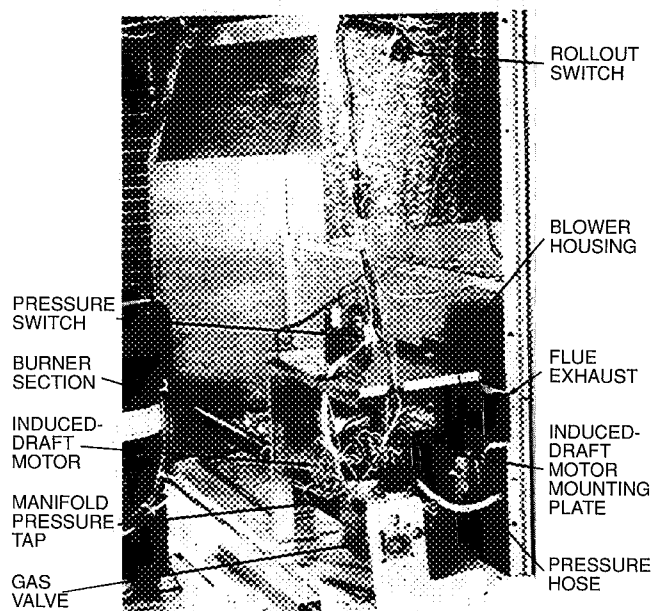

Fig. 32 – Burner Section Details
4. Remove the 7 screws that attach induced-draft motor mounting plate to blower housing (see Fig. 32).
REMOVAL OF GAS TRAIN (see Fig. 32 and 33)
REPLACEMENT OF GAS TRAIN (see Fig. 32 and 33).